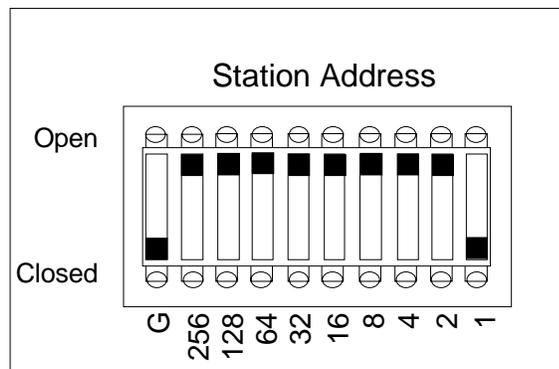

Figure 3-5, "RIM Addressed at 254"
7. The RIM maintains a CTU address (0 or 251-254). See Figure 3-5, "RIM Addressed at 254". "Appendix C: Addressing Modules" provides details on addressing modules.